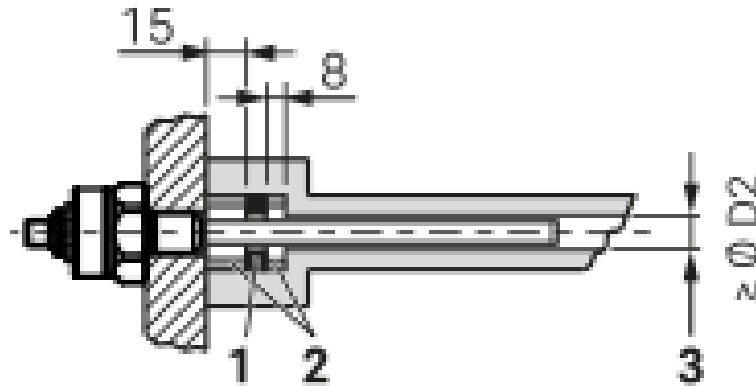

Fig. 2: min. $\varnothing D2$ = Minimum bore diameter (see Table Bore Diameter)
1. Make a mounting hole with thread (possibly with countersink for the O-ring) acc. to *Mounting hole figure 1* or *Mounting hole figure 2*.